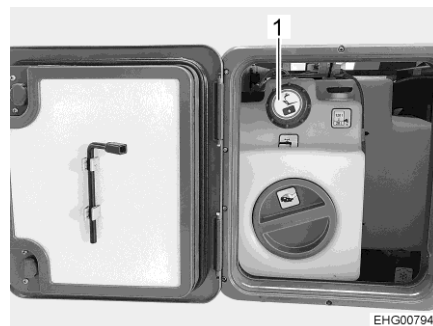

Fig. 66 Cap for the drinking water filler neck
- ▷ The drinking water filler neck (Fig. 66,1) is indicated by the symbol "☕".
- Unscrew the cap of the drinking water filler neck (Fig. 66,1).
- Screw the cap of the drinking water filler neck (Fig. 66,1) on.